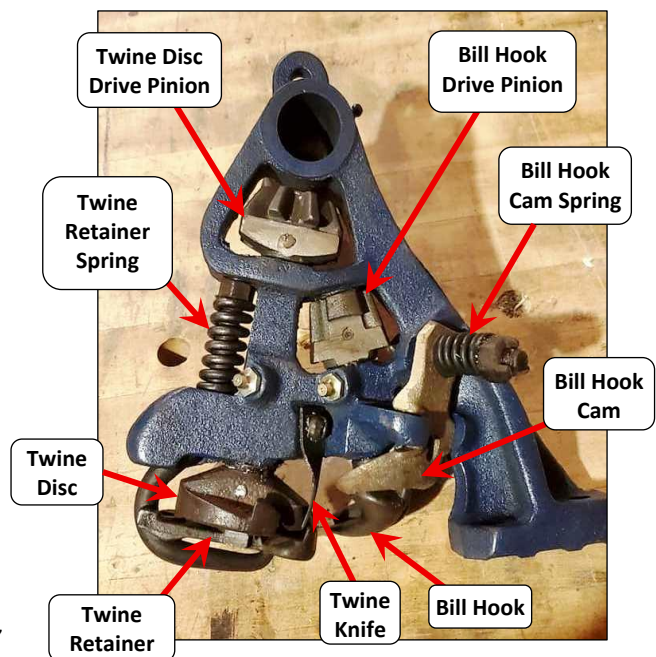

Fig.3.8 McCormick binder knotter
- Less cleverly, during its part-rotation, the Twine Disc also has to draw the lower part of this (*Needle-delivered 2nd*) twine over the (*static*) twine knife (*Fig.3.8*), to cut the twine free of the Retainer and enable the Knot to be formed